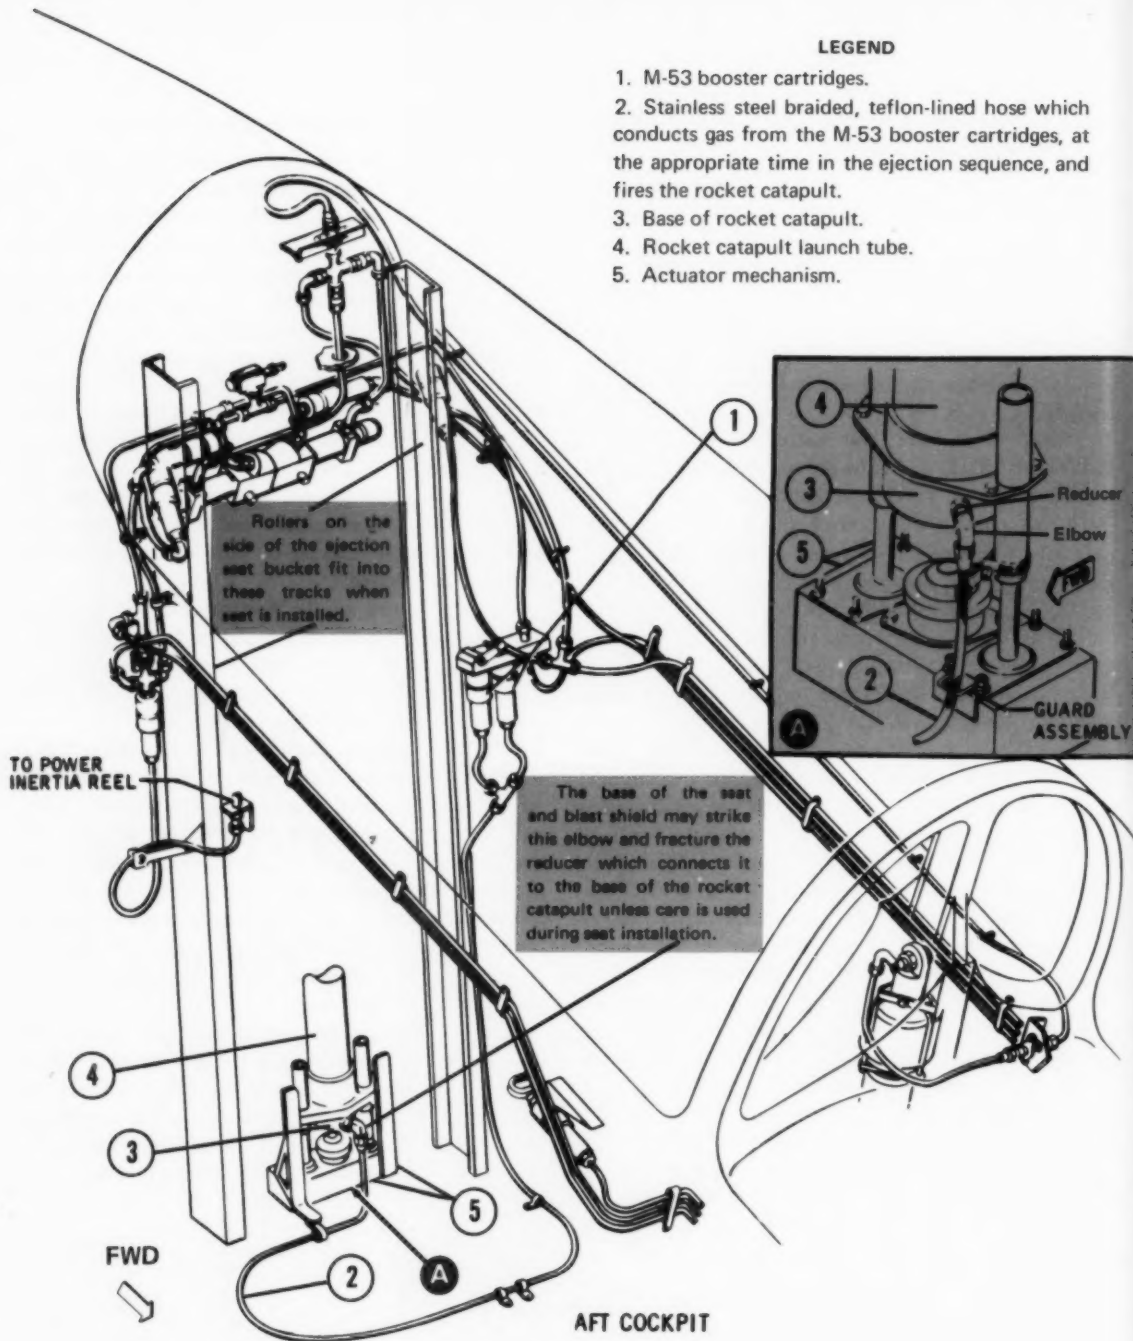

Fig. 1
This aircraft had ESCAPAC IC-3 seats installed in both cockpits. In the normal operation of the ejection seat (command ejection) there is a point in the ejection sequence where two M-53 booster cartridges in the rear cockpit (item 1, fig. 1) are fired by gas pressure from the rocket catapult initiators. The firing of these booster cartridges generates gas pressure which travels through a stainless steel braided, teflon-lined hose (item 2 fig. 1) to the base of the rocket catapult (item 3, fig. 1) where the gas pressure forces a firing pin into a primer which fires the rocket catapult. At the same time, gas from the rocket catapult initiators is routed through another line to the front cockpit where it activates the ballistic delay initiator of the forward seat. The operation of the delay initiator provides a 0.4 second delay (to permit the rear ejection seat to clear the aircraft first) and then fires two M-53 booster cartridges in the front cockpit which, in turn, fires the front seat rocket catapult in the same manner as the rear seat was fired.
What happened in this case? Why didn't the rear seat fire as programmed? The most likely cause appears to be a fractured reducer fitting which normally connects the stainless steel braided, teflon-lined flex hose (item 2, fig. 1) to the base of the rocket catapult (item 3, fig. 1). The other end of this flex hose is connected to the M-53 booster cartridges (item 1, fig. 1) and as already mentioned, conducts gas pressure from the M-53 booster cartridges to the rocket catapult, actuating a firing pin which strikes a primer in the base of the rocket catapult.
A complicating factor in the problem of elbow/reducer fitting and seat clearance is that the rocket catapult launch tube (item 4, fig. 1), when installed on the seat actuator (item 5, fig. 1), is not a completely rigid installation. That is to say, the rocket catapult launch tube can be twisted slightly — in one direction or the other with the result that the elbow/reducer fitting may be rotated slightly forward where it can interfere with the seating of the seat bucket during installation.